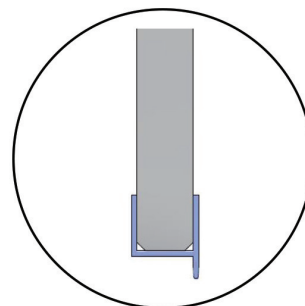

FIG 26.
- If required, slide polyvinyl drip seal onto bottom of door and trim fin (FIG 26). Seal should just miss top of base when door is shut. If gap between door and floor is too large, seal can be lowered up to 6mm. Seal fin can also be trimmed if too long.